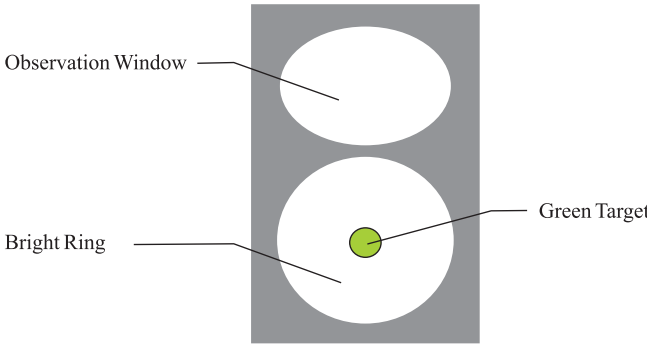

Fig. 5
5.4 Viewed from the Observation Window (as shown in Fig.5)
b. Put the forehead bearer lightly on the testee's forehead, and nose bearer lightly on testee's nose bridge, then keep the device in a horizontal state (as shown in Fig.5).